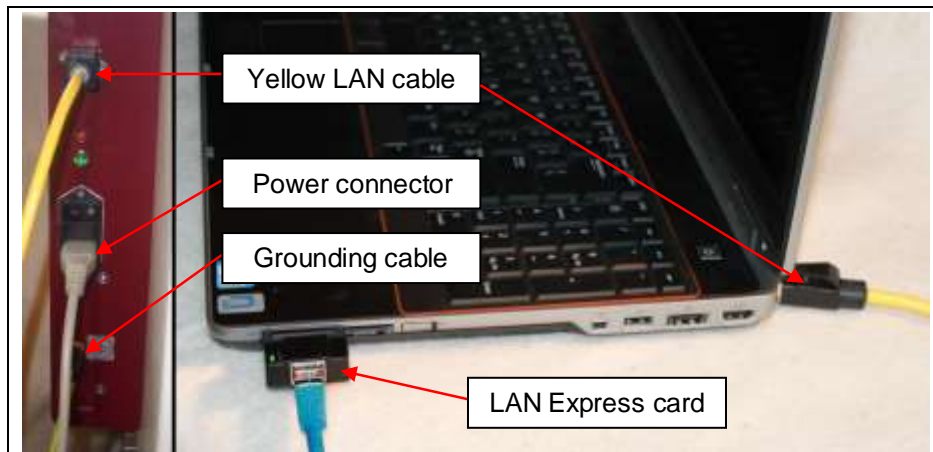

Figure 14: E-Box and Control Server cable connections
- Connect the yellow LAN cable between E-Box and Controls Server (Figure 14).
- Connect the power connector and the grounding cable as seen in Figure 14.
If you need access to your local network, you can insert the provided LAN express card into the Control Server (Figure 14) and connect it via LAN-connector.